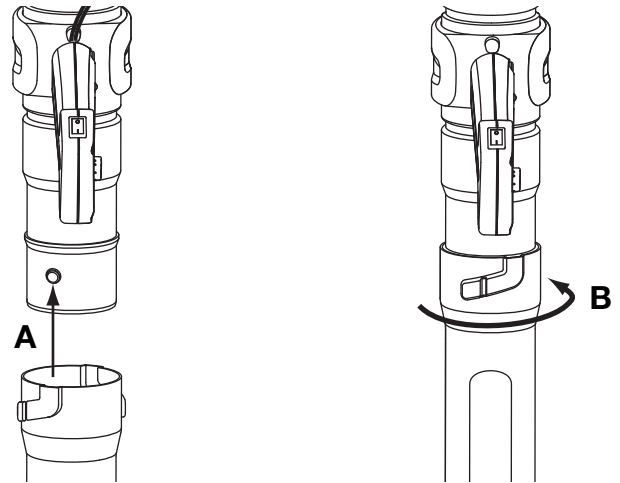

Fig. 3
1. Align the bump slot on the end of the first lower blower tube with the bump on the bottom end of the upper blower tube (Fig. 3, A).
2. Insert the bump on the upper blower tube into the bump slot on the tube extension (Fig. 3, A).
3. Twist the extension tube clockwise around the upper upper blower tube until the handle tube bump locks into place (Fig. 3, B).